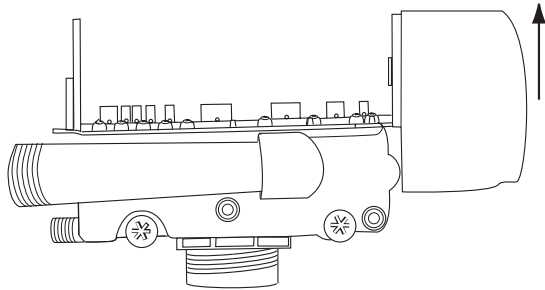

Figure 17
- Lift the control off the valves, Figure 17. To replace the control, reverse the above procedure. Note that the camshaft needs to be positioned correctly before it can be inserted into the back of the control. There is a locating rib on the camshaft. Position the rib on the top of the shaft and slide the camshaft into the control. Push up on the end of the camshaft, furthest from the timer, snapping it into place.